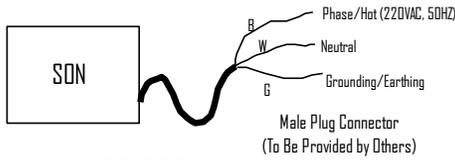

FIGURE 3
To prevent damage to the equipment, be sure that the unit received is applicable to the electrical service in your area. In accordance with specifications of the National Electrical Code in the USA, or other applicable international codes, the 115V equipment is supplied with a three-prong (grounding) plug, which mates with a standard (three-prong) grounding wall receptacle (Figure 1). **Do not, under any circumstances, cut or remove the third (ground) prong from the cord set plug.** The 230V equipment is supplied in two configurations. It is supplied with a three-wire cord without the male plug (Figure 3), or in the European cord "Schuko" version (Figure 4). All cords must be a three-wire cord with a ground or earth wire and have the correct plug for the corresponding receptacle of that nation or locality.
**230VAC** - Refer to Figure 3 for the model that is supplied with the cord without the male plug provided. If a cord is supplied by the manufacturer, the black wire will be the "phase" or "hot" wire, the white wire will be the "neutral" or "grounded current carrying" wire, and the green wire will be the "grounding" or "earthing" wire. Refer to Figure 4 for European model.